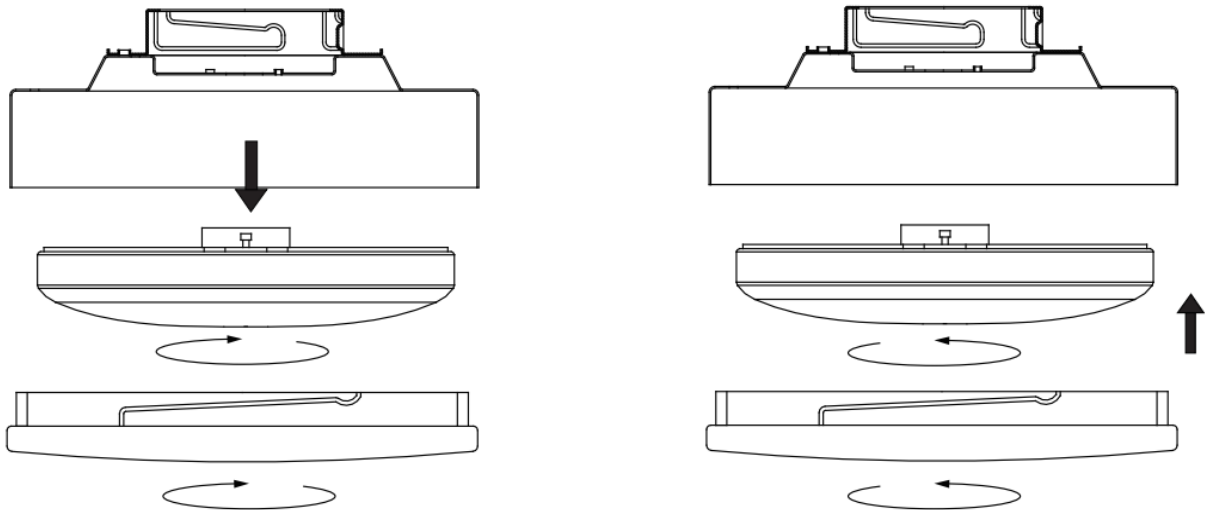

Fig. 7
**INSTALLATION OF LAMP (Fig. 7)**